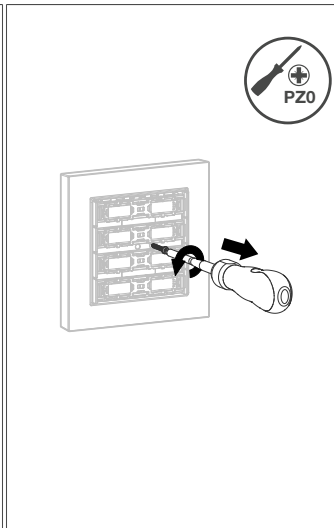

Fig. 20: Undoing the dismantling protection screw
- 2 Optional: Undo the dismantling protection screw (see Fig. 20).